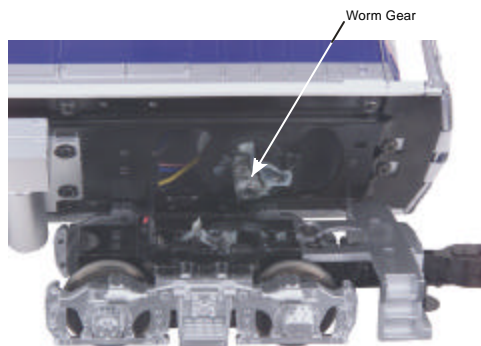

Figure 3a. Grease the Worm Gear
3. Once the motor mount screw has been removed, pull the motor away from the truck block and lightly coat the motor worm gear and bronze drive gear (in the truck block) with grease (See Figure 3a).